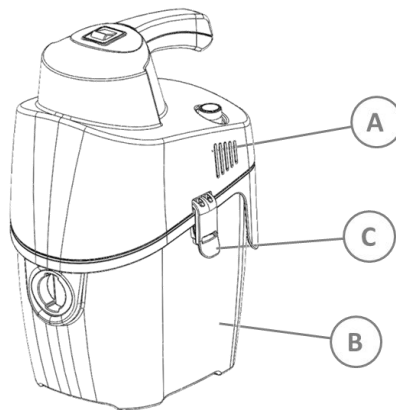

Figure 2
4. See Figure 2. Remove vacuum head (A) from tank (B) by pulling gently on the lower part of the clamps (C) on the vacuum head.